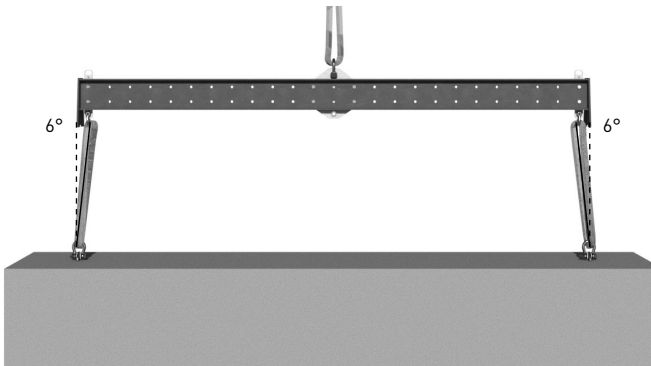
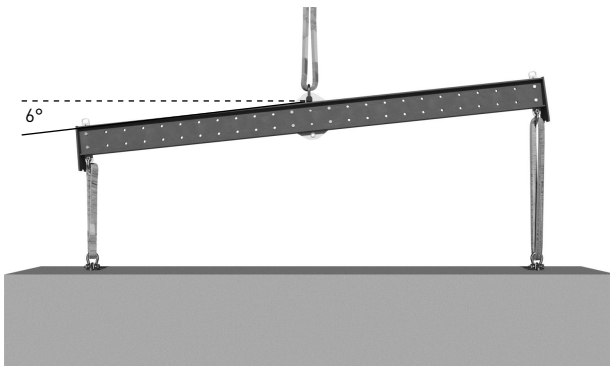

Figure 3: Max. allowable lower sling angles
Figure 4: Max. allowable beam tilt angle
- The lower slings cannot be rigged at more than a 6° angle (see figure 3)
- The lifting beam cannot be used when the beam deviates at more than a 6° angle (see figure 4)
When lifting a load using the Adjustable Lifting Beam the stability of the beam and load depends on the position of the centre of gravity, 'G', with respect to the suspension point of the beam. The stability must be ensured longitudinally, in addition the lower slings must not be angled at more than 6° (figure 3) and the angle of the beam itself must not be more than 6° (figure 4).